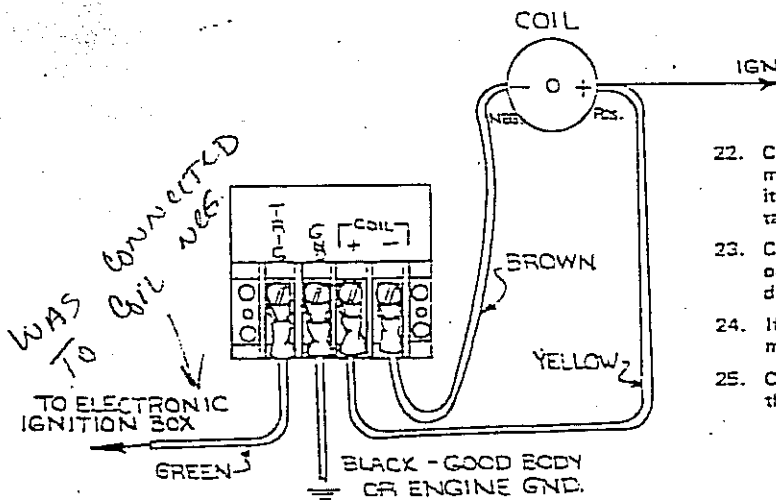

FIGURE 7
- Connect brown wire (Coil-) on Hyfire box to the negative (-) terminal on the Coil. Connect yellow wire (Coil+) on the Hyfire box to the positive (+) terminal on the Coil. Try to route wires close to existing wires and away from hot engine components. (See figure 7.)
- Connect wire that was disconnected in step 20 to terminal marked Trig on Hyfire box. If wire is not long enough, splice it to green wire already installed on box. Be sure to solder and tape splice. (see figure 7.)
- Connect black wire (GND) on the Hyfire box to a good body or engine ground point. This wire may also be connected directly to the negative (-) battery terminal. (See figure 7.)